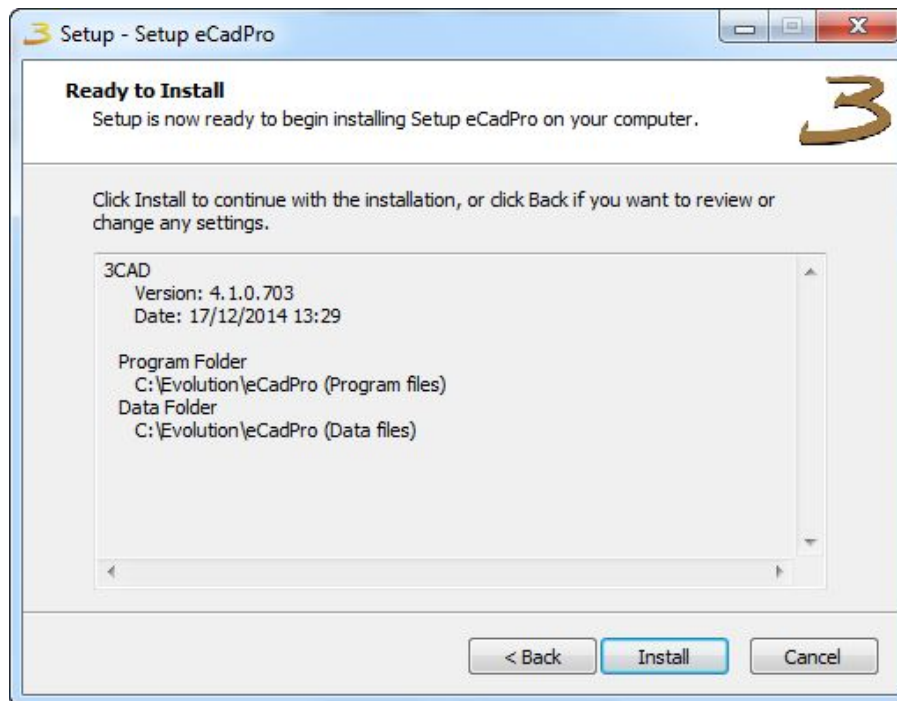

Figure 2.6: Start installer.
d) Click on **Install** to launch the installer, see figure 2.6.